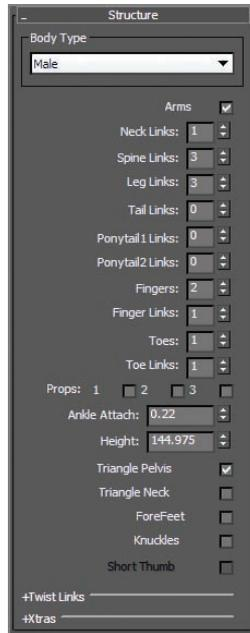

FIGURE 12.5
- Then in the Structure rollout, change the parameters to match Figure 12.5. The number of spine links should be set to 3. Change the number of toes to 1 and toe links to 1. Because the soldier is wearing boots, a single, wide toe will suffice. Change the number of fingers to 2 because with mittens you only need one finger and a thumb.